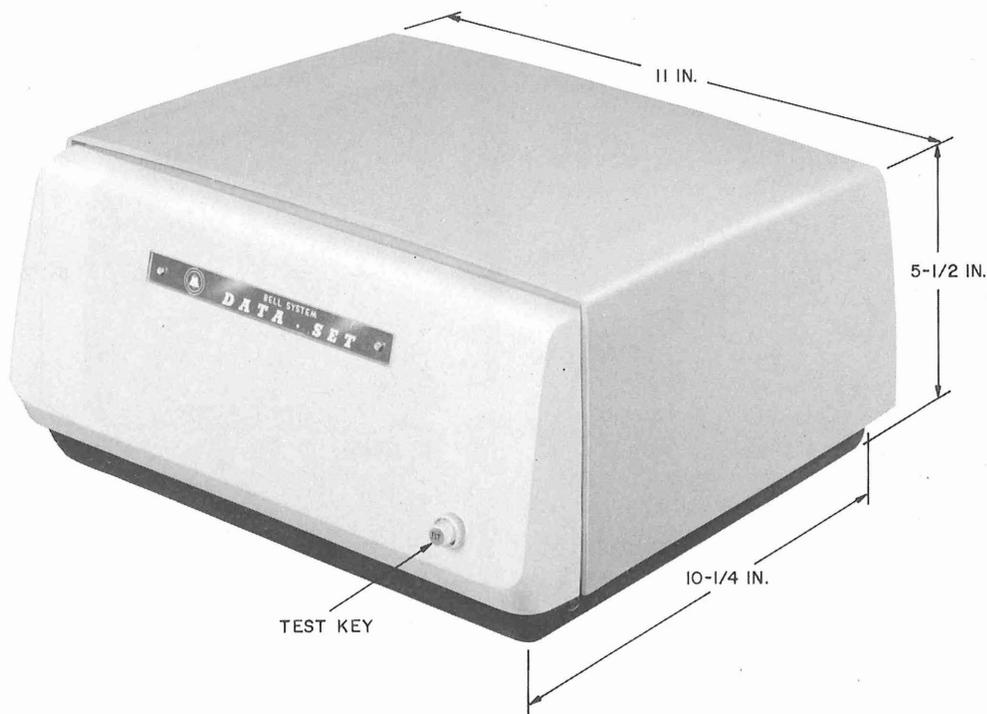
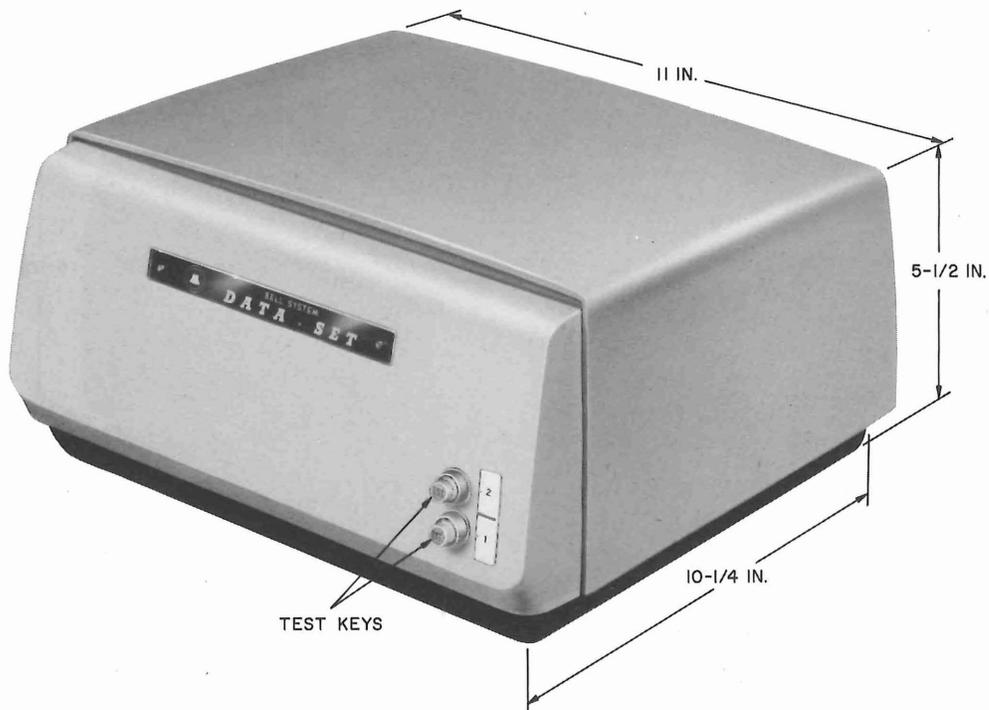

Fig. 1 — Data Set 103F1
Fig. 3 — Data Set 103F2
2.01 The 103F-type data set is composed of electronic and relay circuits and is enclosed in a two-tone gray plastic case (see Fig. 1 and 2 for data set 103F1 and Fig. 3 and 4 for data set 103F2). The difference between the data set 103F1 and data set 103F2 is that the data set 103F1 has one test key and data set 103F2 has two test keys.